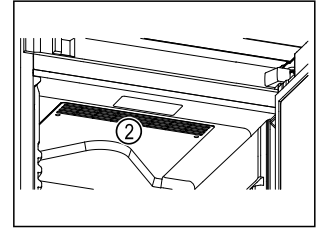

Fig. 62
- Ventilation slots Fig. 62 (2) for recirculation fan in the interior must be kept clear.